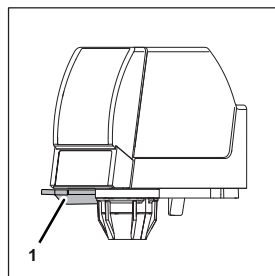

Fig. 13
2. Press the soda lever (Fig. 13/1) down.
3. When the required fill quantity has been reached, stop dispensing by releasing the soda lever (Fig. 13/1).